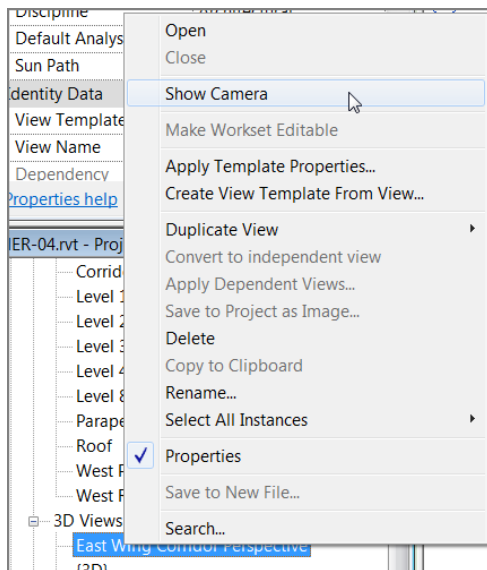

FIGURE 3.72: By finding the view in the Project Browser, you can tell Revit to show the camera in the plan.
2. In the Project Browser, right-click the East Wing Corridor Perspective view in the 3D Views category, and select Show Camera, as shown in Figure 3.72.